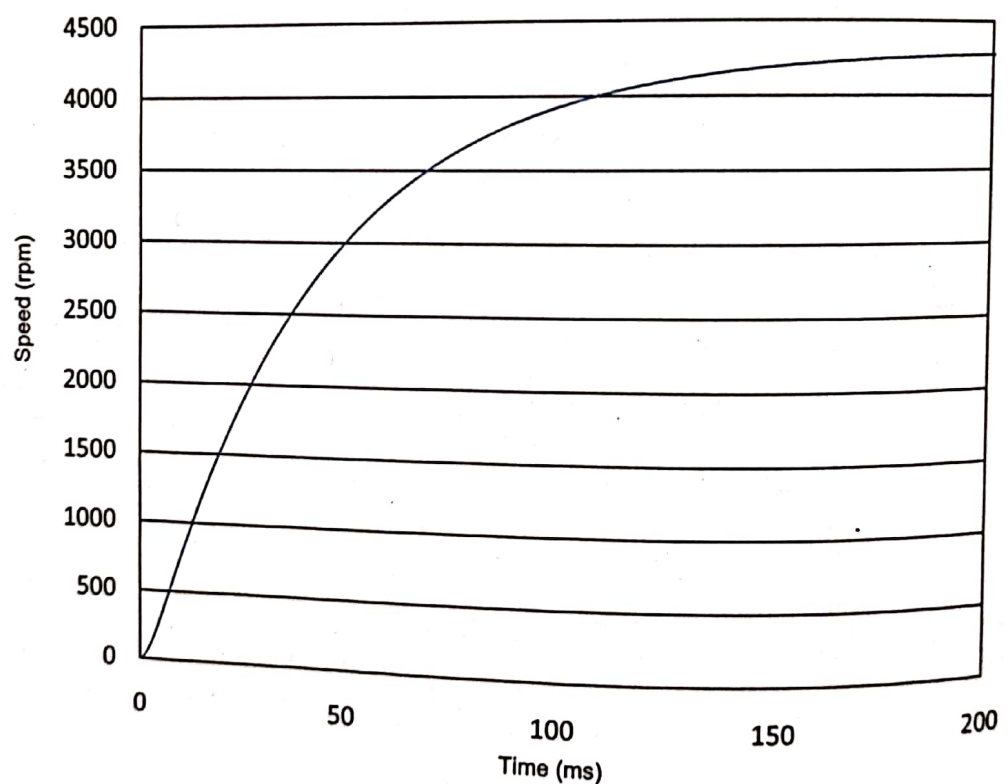

Figure 20. Second-order step response.
Substituting values of time from 0 to 200 ms into Equation (17) and substituting the values of τ_1 , and τ_2 calculated above, the motor speed response can be plotted for a 48 V step change to the motor. Note that Equation (17) yields results of speed in rad/s. These must be converted to rpm by multiplying the result in rad/s by $30/\pi$. Figure 20 shows the plot resulting from these values: